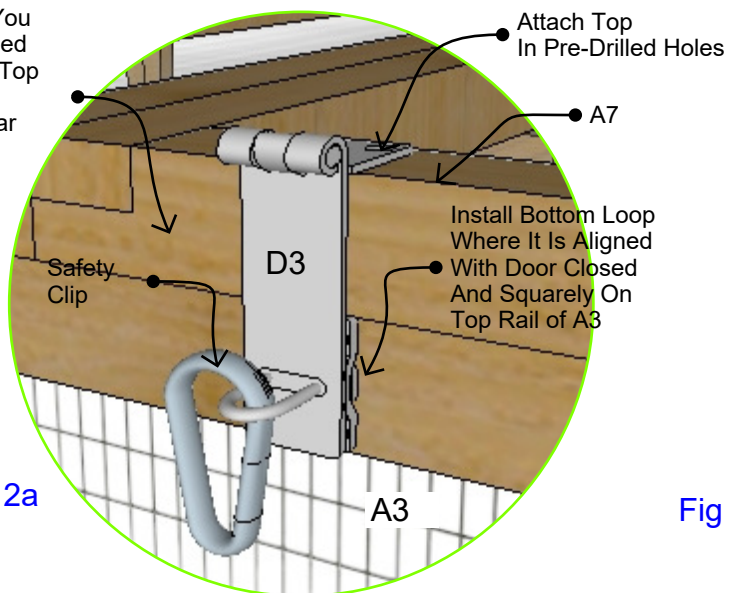

Fig 12a
12.2 Install Run Top Hasps - As illustrated in **Fig 12a** detail, install four **D3** Run Top Door Hasps (longer ones in kit) as shown using **E5** screws and **G2** Philips bit. Install safety clips when done.